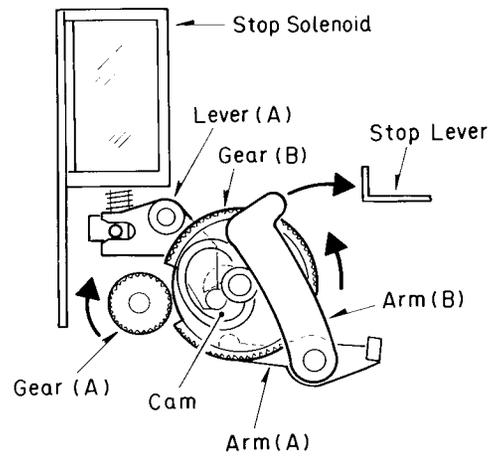

Fig. 4
1. The mechanism uses six solenoids to perform the operations required in STOP, FF, REW, PAUSE, PLAY and REC modes. Figure 4 shows the positional relationship between the solenoid and the gears (STOP mode in this case).
2. When power is switched ON, the motor turns for a pre-determined length of time, rotating the pulleys and gear (A).
3. At the same time, the STOP solenoid comes ON and pulls on lever (A) to unlock gear (B). Arm (A) rotates gear (B) a short distance (in the direction of the arrow), where it engages with gear (A).
4. When gear (B) starts turning, the cam presses on arm (B), which in turn presses on the STOP lever.
7. After gear (B) rotates thru one full turn, since the solenoid is now OFF, it locks.
1. Pressing the PLAY button starts the motor rotating, and at the same time turns the PLAY solenoid ON. The PLAY lever is pressed by arm (B), and locked by the lockplate (see Fig. 4).
2. The PLAY lever, via arm (E) moves the head mount forward. It also presses against arm (F), which causes the pinch-roller to contact the capstan shaft. Arm (F) is coupled to the TP unit thru arm (G), and the above action causes the TP unit to contact the reel unit, completing PLAY mode entry.
1. Pressing the FF button starts the motor rotating, and at the same time turns the FF solenoid ON. The FF lever is pressed by arm (B), and locked by the lockplate (see Fig. 4).
2. The action of the FF lever causes the FF gear to contact the FR unit and reel unit. Through coupling with arms (H) and (I), it also advances the head mount to the blank (between selection) detection position.
1. Pressing the REW button starts the motor rotating, and at the same time turns the REW solenoid ON. This causes the REW lever to be pressed by arm (B) and locked by the lockplate (see Fig. 4).
2. The REW lever moves arm (J) coupled to the FR unit. The FR unit thus is forced into contact with the reel unit. Through coupling with arms (H) and (I), the REW lever also advances the head mount to the blank detection position.
1. Pressing the REC button starts the motor rotating, and at the same time turns the REC solenoid ON. The REC lever is then pressed by arm (B) (see Fig. 4). At the same time, the REC lever presses the PLAY lever, and both levers are engaged by the lockplate.
1. When the REC button is pressed from the REC PAUSE mode, the PLAY solenoid is turned ON, and the PLAY arm (Fig. 4, arm (B)) presses the slider at the point of the arrow. This causes the slider to move upward, releasing only the PAUSE lever lock and entering the REC mode.